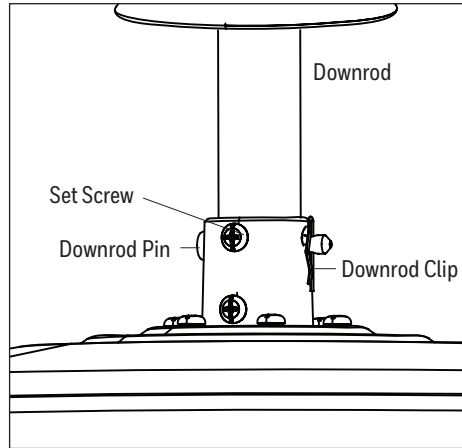

Figure 3.2
2. Partially loosen the two set screws in the yoke at the top of the motor assembly to allow for installation of the downrod. Slide the downrod into the yoke of the motor assembly. Align holes and reinstall the downrod pin and downrod clip and re-tighten the set screws (Figure 3.2).